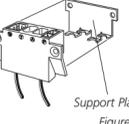

Figure 27
- Snap the support plate to the rear of the connector holder (Figure 27).